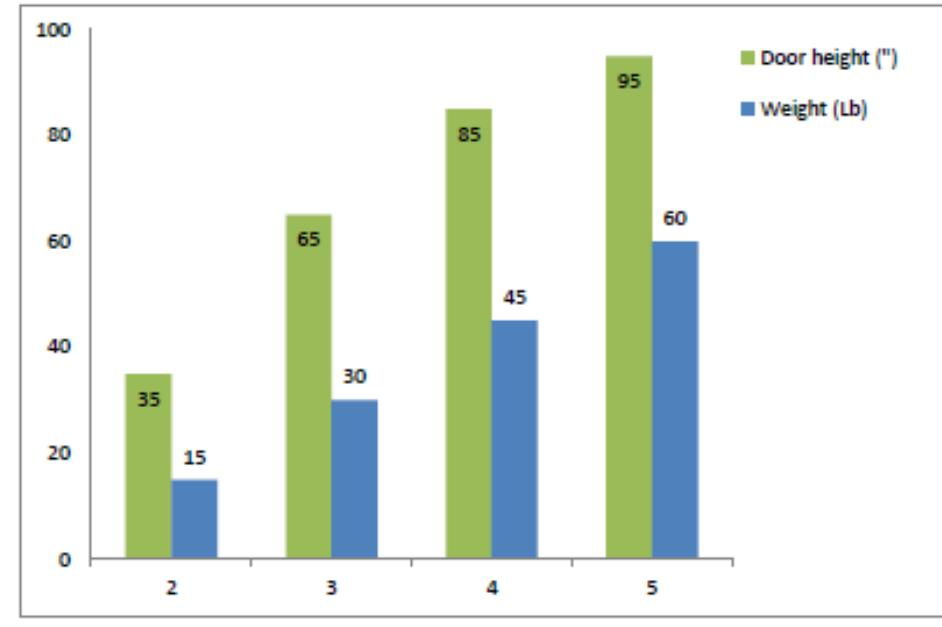

FIGURE 70 – HINGES PER DOOR IN RELATION TO DOOR HEIGHT AND WEIGHT
The number of hinges per door is defined by the height and weight of the finished door as shown in Figure 70. For most application, and as a general rule, two (2) hinges will be needed with exception for the large doors on wardrobes where three (3) hinges are required.